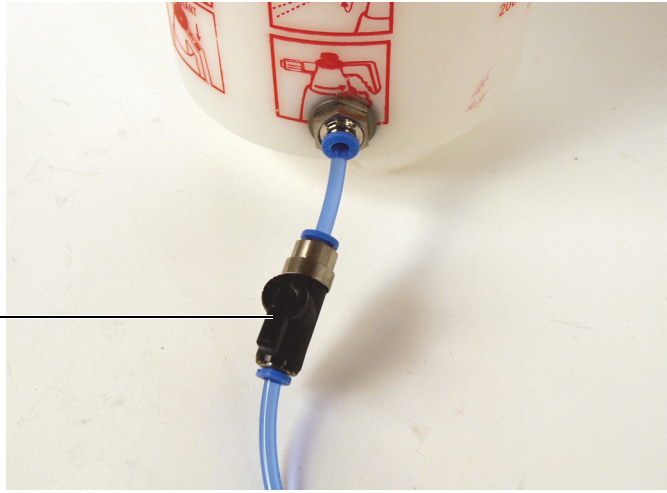
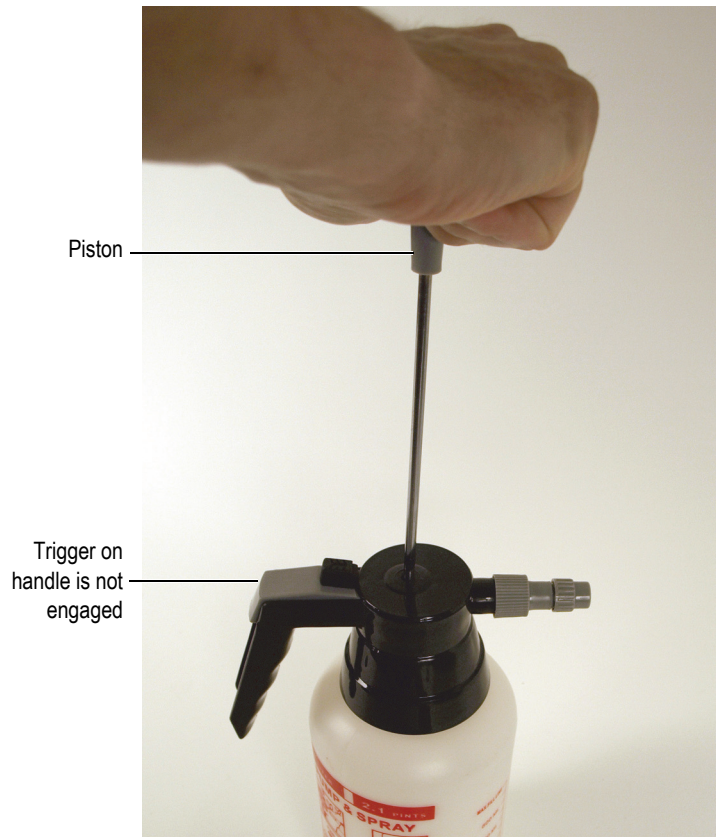

Figure 3-3 Feeding tube valve in the open position
Figure 3-4 Manual pump piston
3. Open the valve on the manual pump's feeding tube (Figure 3-3 on page 48). Make sure that the trigger at the top of the pump is not engaged (Figure 3-4 on page 49).
4. Slowly pump the manual pump to feed liquid into the acoustic wheel's liquid chamber (Figure 3-4 on page 49).